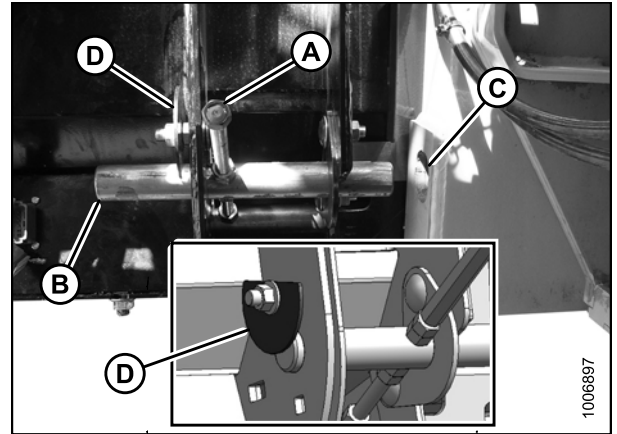

Figure 5.28: Feeder House Lock
11. Move top beam (A) according to measurement in Step 7, page 63 to achieve proper alignment of locking pin and feeder house receptacle. Refer to Figure 5.28: Feeder House Lock, page 63.